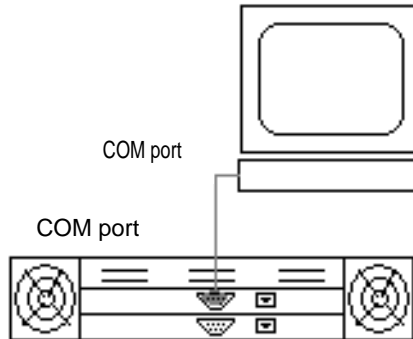

FIGURE 2-1 RAID Array COM Port Connected Locally to the COM Port of a Workstation or Computer Terminal
3. Connect the RAID array COM port to the serial port of a Solaris workstation (see FIGURE 2-1)